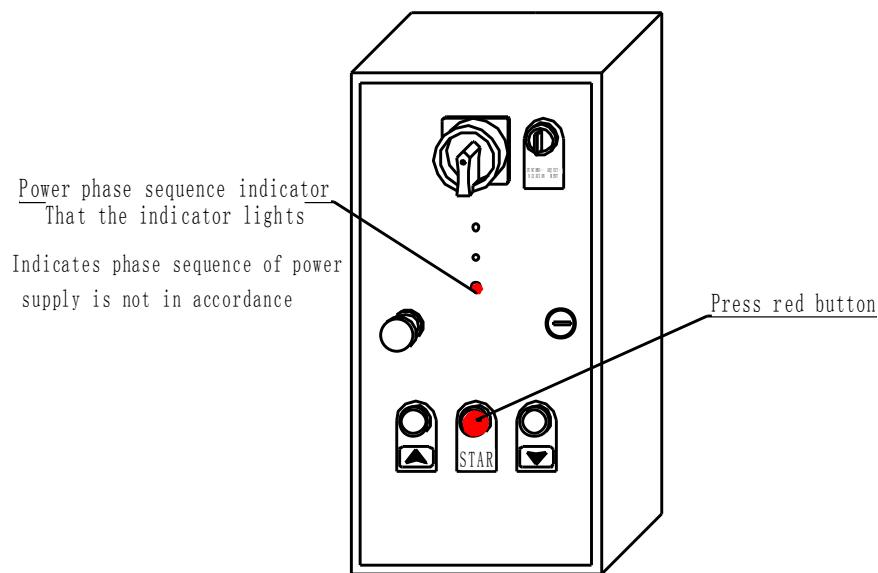

fig 22
- 3) Pay attention to indicator. That the indicator lights indicates phase sequence of power supply is not in accordance with that of transmission-line system of electric power]. Press red button in the middle of control panel for 3s, no sound for main contactor's contacting due to magnetic force (see fig 22)